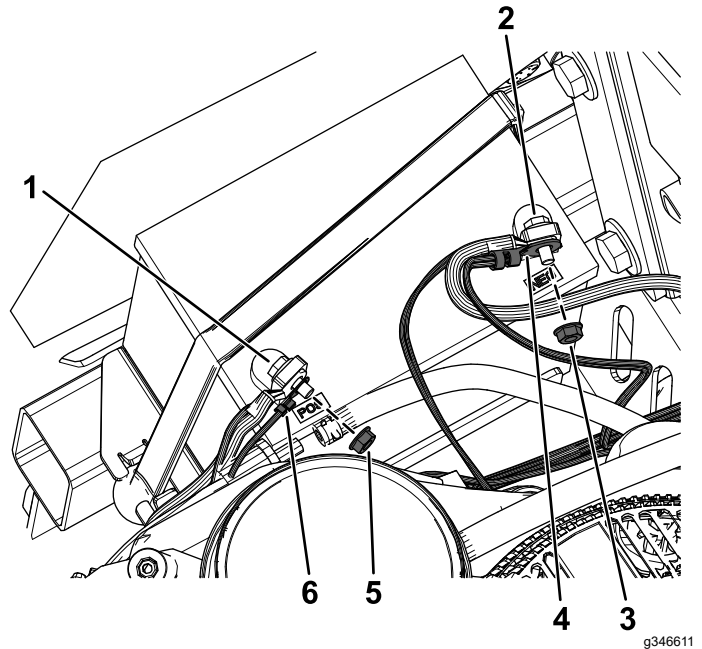

Figure 19
5. Remove the nut from the positive battery terminal and install the kit wire harness positive terminal ring onto the bolt (Figure 19).
6. Secure the positive terminal ring using the previously removed nut (Figure 19).
8. Remove the nut from the negative battery terminal and install the kit wire harness negative terminal ring onto the bolt (Figure 19).
9. Secure the negative terminal ring using the previously removed nut (Figure 19).